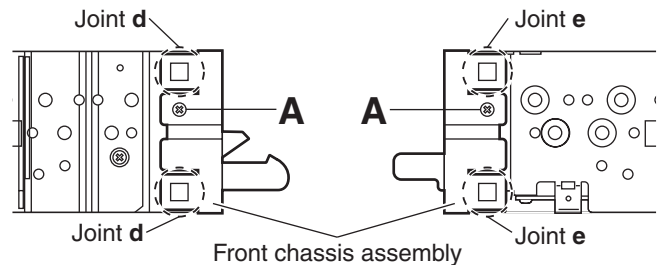

Fig.3
3.1.3 Removing the front chassis assembly (See Figs.3 and 4)
- (1) Remove the two screws **A** on the both sides of the main body. (See Fig.3.)
- (3) Release the two joints **d** and two joints **e** on the both sides of the main body, then remove the front chassis assembly toward the front. (See Fig.3.)
- (1) Turn the mode gear to set to RVS play or subsequent mode.
- (2) Remove the cassette guide from the main chassis while releasing each two joint tabs **a** in the direction of the arrow.
3.2.2 Removing the load arm (See Fig.3)